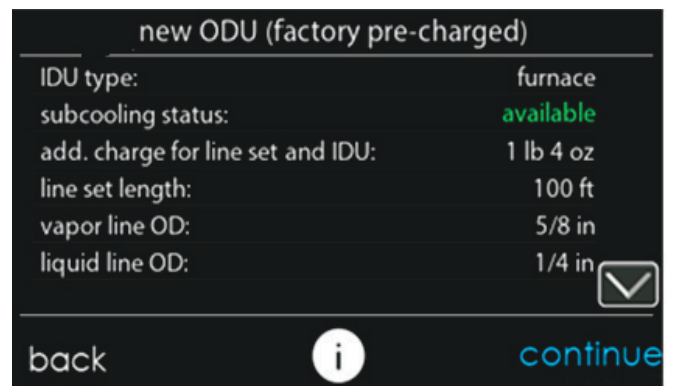
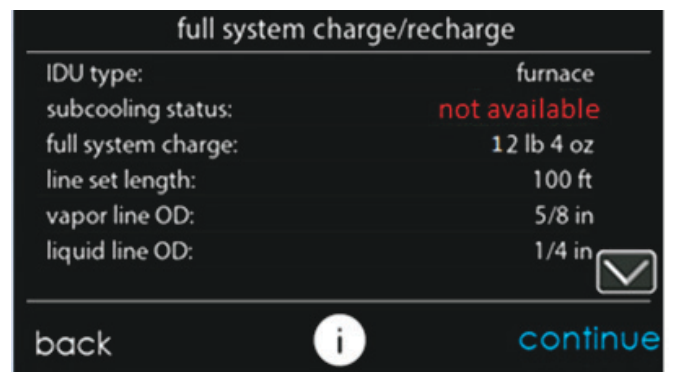

Fig. 15 – New ODU (factory pre-charged) - Subcooling Available
Fig. 16 – Full System Charge/Recharge - Subcooling Unavailable
- If indoor and outdoor conditions are in range, subcooling status will be green and available (Fig. 15). If conditions are outside the range, subcooling status will be red and unavailable and will require a partial weigh-in of charge (Fig. 16). Both “new ODU (factory